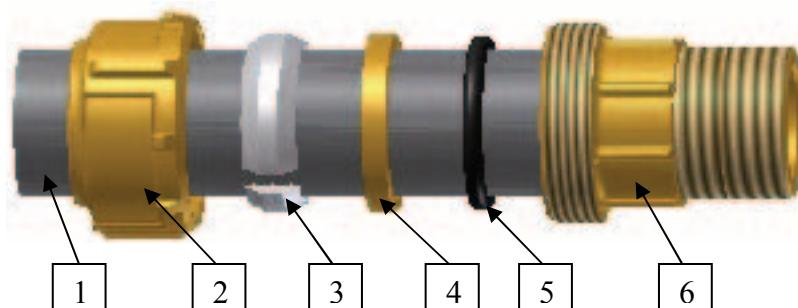

Fig.1
На рис.1 пример правильной сборки.
- D. Insert the o-ring (5) into the pipe.
- E. Place the pipe with all the components inside the body of the connector (6) until the pipe keeps fixed inside.
- These instructions avoid a wrong coupling because of any kind of pipe's deformation. In the figure 1 instruct the correct assembly.